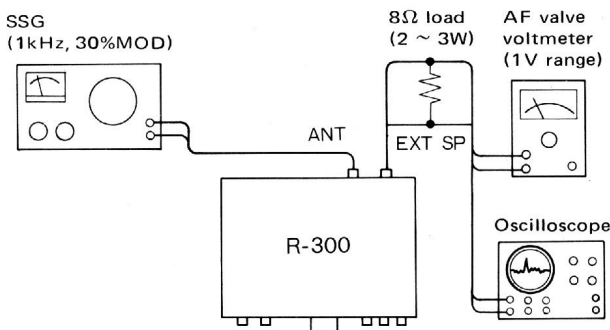

Fig. 2
- (i) Put the receiver so that the cursor line can be seen directly. Connect the AF valve voltmeter and oscilloscope to both ends of  $8\Omega$  dummy load, as illustrated in Fig. 2.